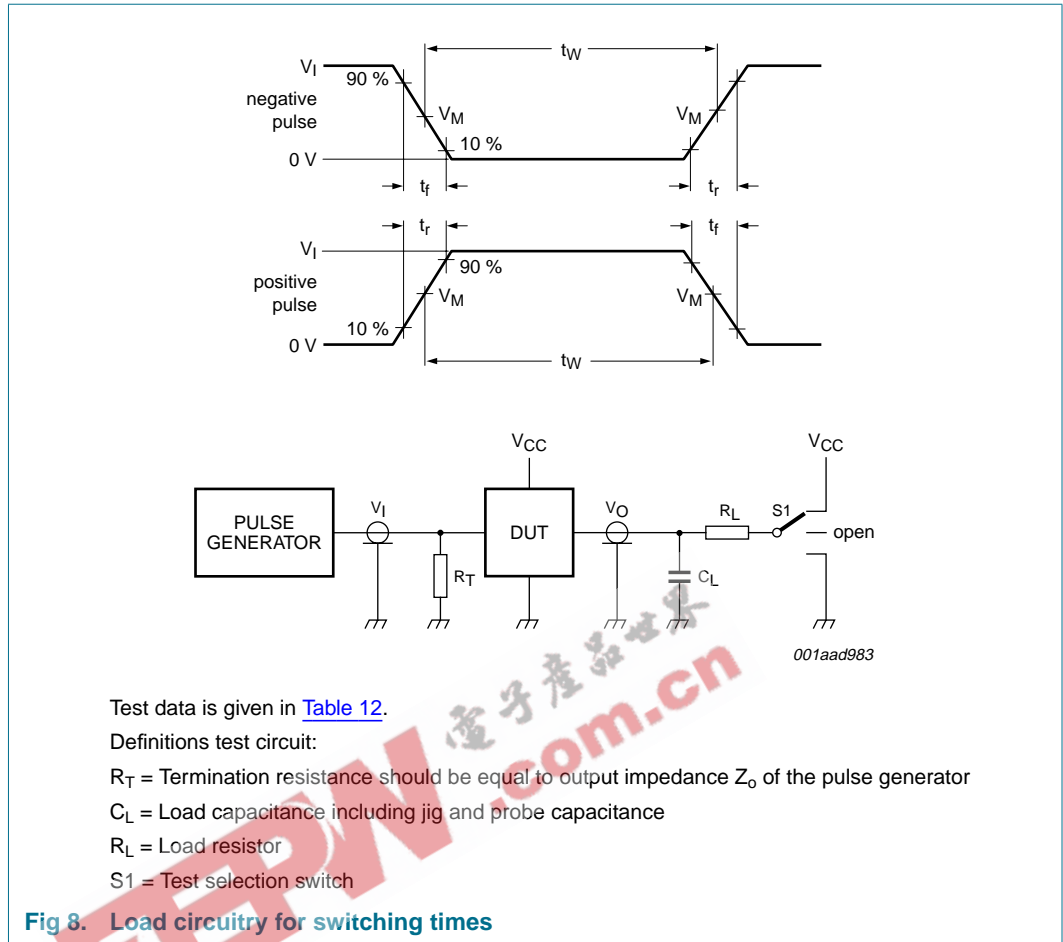

Fig 8. Load circuitry for switching times
**Table 9: Dynamic characteristics 74HC244 ...continued**GND = 0 V;  $t_r = t_f = 6$  ns;  $C_L = 50$  pF unless otherwise specified; for test circuit see Figure 8.
$\Sigma$ (CL × VCC2 × fo) = sum of outputs.**Table 10: Dynamic characteristics type 74HCT244**GND = 0 V;  $t_r = t_f = 6$  ns;  $C_L = 50$  pF unless otherwise specified; for test circuit see Figure 8.
GND = 0 V;  $t_r = t_f = 6 \text{ ns}$ ;  $C_L = 50 \text{ pF}$  unless otherwise specified; for test circuit see Figure 8.